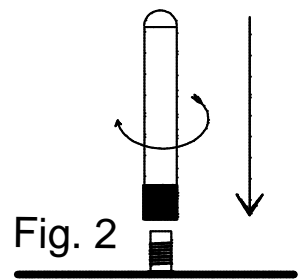

Fig. 2
Step 4 Connect the antenna to the receiver RF board. See Fig. 2.